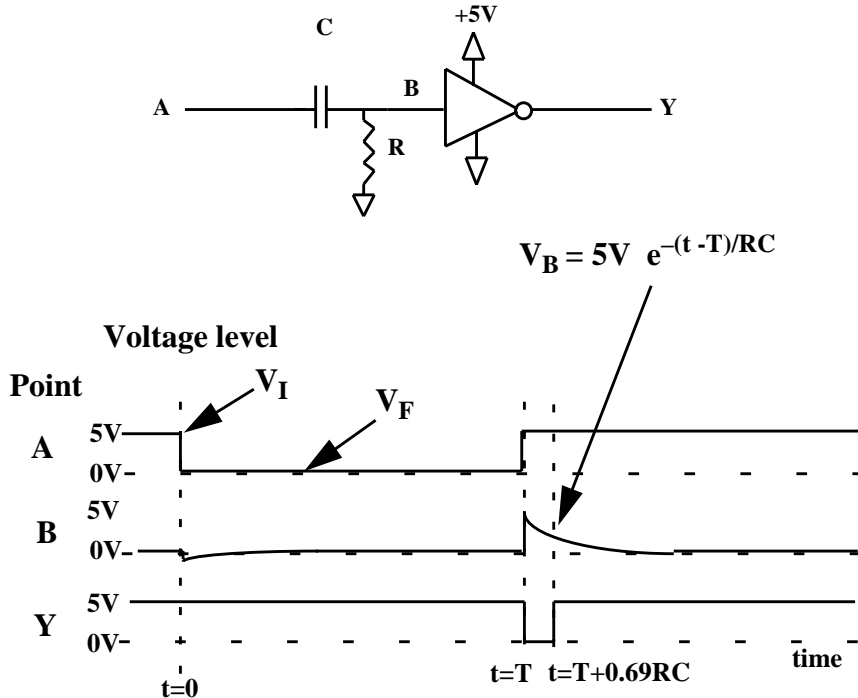

Figure 8.4 A circuit for converting long pulses in to short pulses using an inverter, resistors, and a capacitor.
There is another type of timing circuit that can be constructed with inverters, resistors, and capacitors (see Fig. 8.4). It is similar to the above delay circuit, except that the capacitor and resistor are interchanged. The function of this circuit is to generate a pulse of short duration from each rising edge of the input waveform.
During the downward edge of the input waveform shown in Fig. 8.4, the capacitor attempts to maintain itself at the same voltage it was at initially. Unfortunately, since the input was initially at +5V and point B was initially at 0V, then immediately after the input drops to 0V point B should drop to -5V in order to maintain 5V across the capacitor. This does not actually happen because most logic gates do not allow their input voltages to go outside of the power supply voltages (0V–5V in this case). If you look very closely, you will see that the input does go slightly negative, about one V_{D-ON} (0.7V). This is because these CMOS ICs use diodes on the input to keep the input voltage from going more than 0.7V outside of the 0V–5V range.
3. Construct the simple pulse generating circuit shown in Fig. 8.4. Adjust your function generator to output a 0V-5V square wave at a frequency of 100 Hz. First power up your circuit and then connect the function generator. Connect the scope channel 1 to point A and verify that you have the desired square wave. Trigger the scope on channel 1. Now look at point B with channel 2 of the scope. Does it match the wave form in Fig. 8.4? Finally, move channel 2 to look at the output, node C.